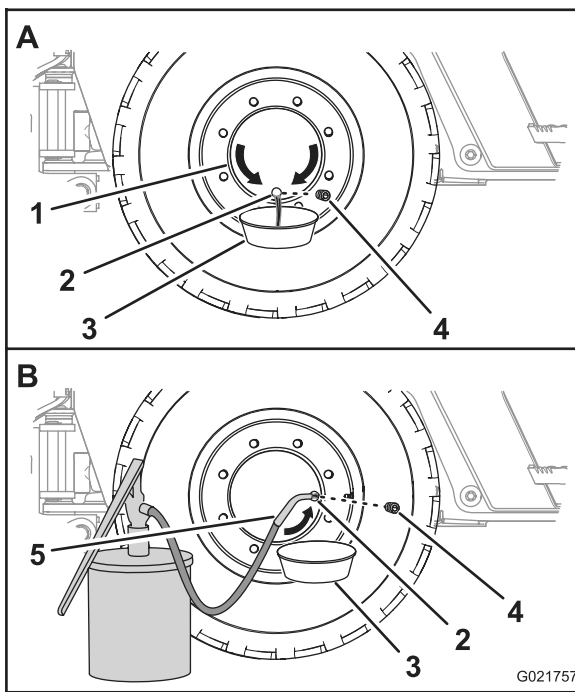

Figure 65
1. Move the machine forward or backward until the oil plug for the wheel hub is at the 6 o'clock position (Figure 65).
- Place a drain pan under the oil port of the wheel hub (Figure 65).
- Remove the plug and drain the oil from the planetary (Figure 65).
- Move the machine forward or backward until the oil plug for the wheel hub is either at the 3 o'clock or the 9 o'clock position (Figure 65).